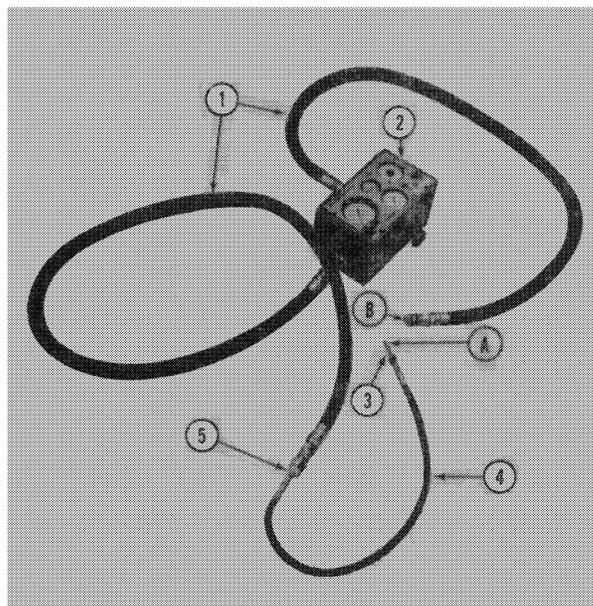

Figure 12
1. Install the Fitting, No. 4653, as outlined in Steps 1 and 2 for pressure testing and connect the test equipment. Be sure the load valve is fully open (Figure 12).